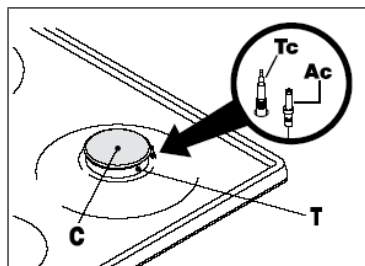

Figure 9
(only certain versions, see figure 9, ref. Ac)
### Lighting of burners equipped with safety thermocouples (only certain versions, see figure 9, ref. Tc)
1. In case burners are fitted with Flame Safety Device (FSD = Thermocouple, figure 9, Tc), repeat operations described previously.
- The surface of the hob, pan supports, enamelled burner caps (C) and burner heads (T) (see figure 9) need to be cleaned after each time they are used with warm soapy water, rinsed and then dried well to keep them in good condition. Never clean when the top and components are still warm.
- Check that the heads burners and the relative burner caps are correctly positioned in their housings (see figure 9).